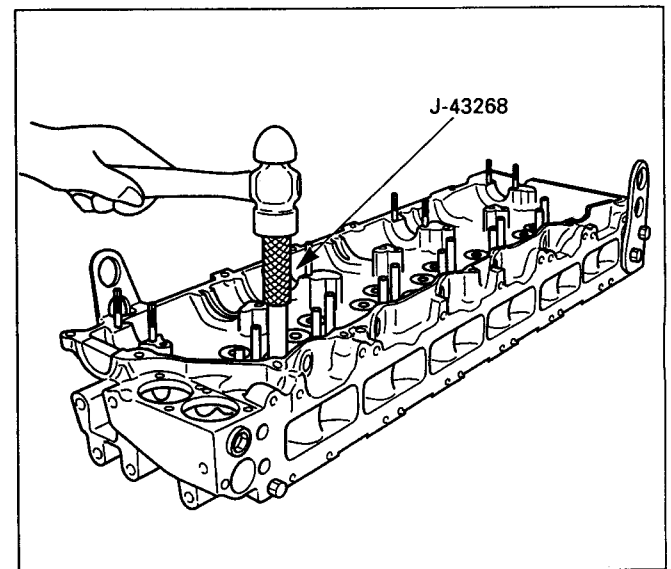

Figure 56 – Installing the Valve Guide
**Install or Connect (Figure 56)**